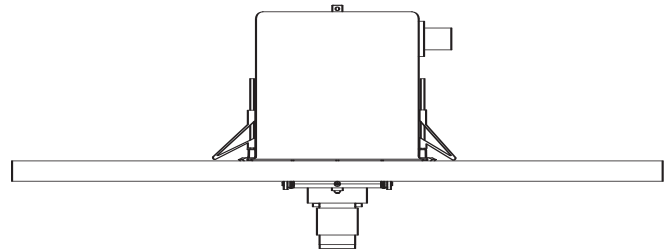

Figure 2
5. Pull the drawstring tight (away from the screw) to clamp down on the ceiling, then lock the drawstring into the groove. Figure 2 shows the housing clamped to the ceiling. **DO NOT CUT DRAWSTRING.** Push the excess string through the hole provided. As an option, a screwdriver may be used to turn screws and lock ceiling clamps in place.